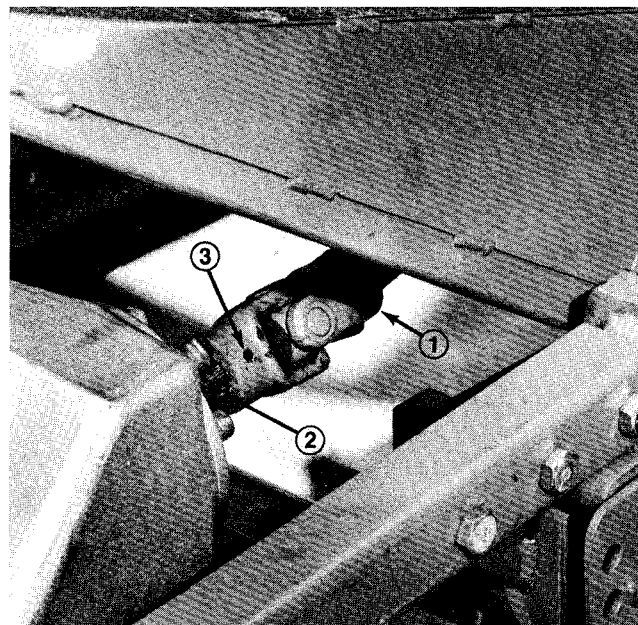

Figure 4
3. Lower frame, align PTO shaft hole with gearcase input shaft hole and install roll pin (Fig. 4).